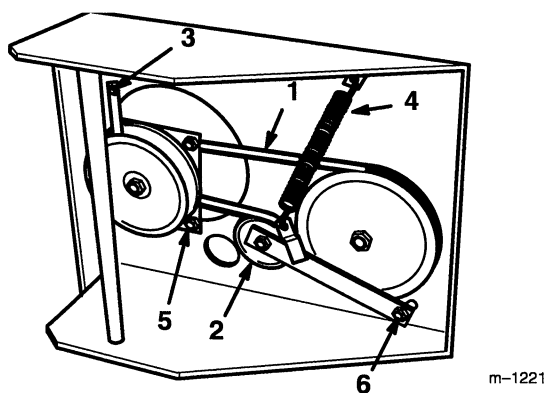

Figure 30
4. Remove left front engine mounting bolt securing clutch retainer to frame (Fig. 30). Unhook retainer from clutch and remove retainer.
5. Unhook tension spring from side of frame (Fig. 30).
8. Torque pivot bolt to 35-40 ft. lb. (47-54 N.m). Install tension spring between idler arm and frame bracket (Fig. 30).
1. To adjust clutch, tighten or loosen lock nuts on flange studs (Fig. 30).